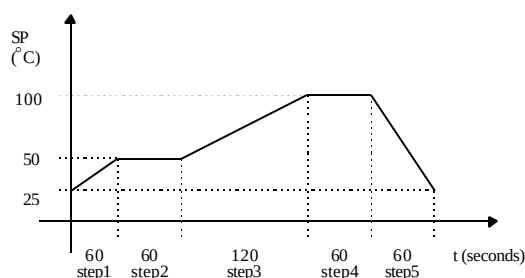

Fig.1 - Setpoint profile
2) The two arrays define the Setpoint value (y-axis) in function of the time (t-axis). Between two given points, the Setpoint is calculated by interpolation. As each segment is defined by [START_VAL]_i, [DURATION]_i and [START_VAL]_{i+1}, a profile with 'n' segments will need **n+1** starting values and n time durations. As example, the two following arrays define the profile shown on Fig. 1: